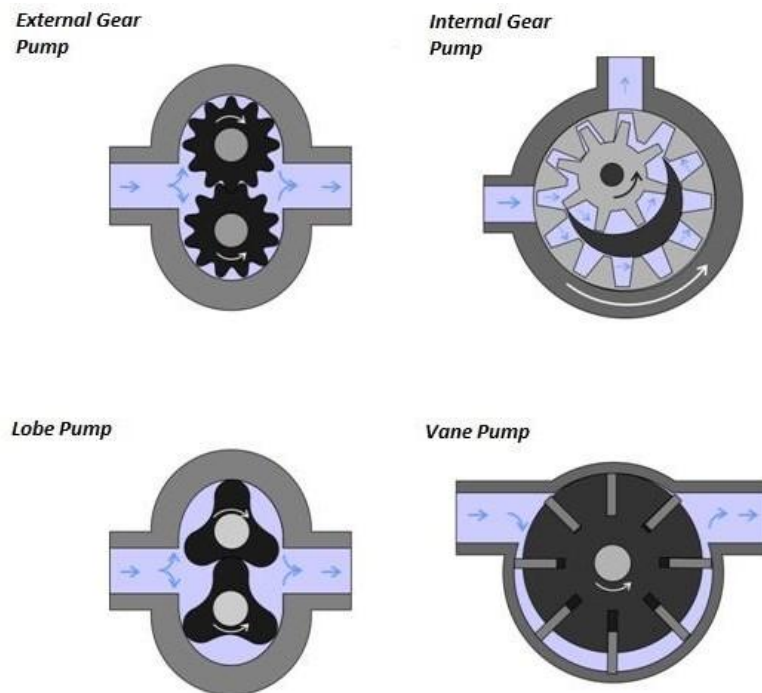

Figure 2. Rotary positive displacement pump designs
- Rotary positive displacement pumps use the actions of rotating cogs or gears to transfer fluids, rather than the backwards and forwards motion of reciprocating pumps. The rotating element develops a liquid seal with the pump casing and creates suction at the pump inlet. Fluid, drawn into the pump, is enclosed within the teeth of its rotating cogs or gears and transferred to the discharge. The simplest example of a rotary positive displacement pump is the gear pump. There are two basic designs of gear pump: external and internal (Figure 2).